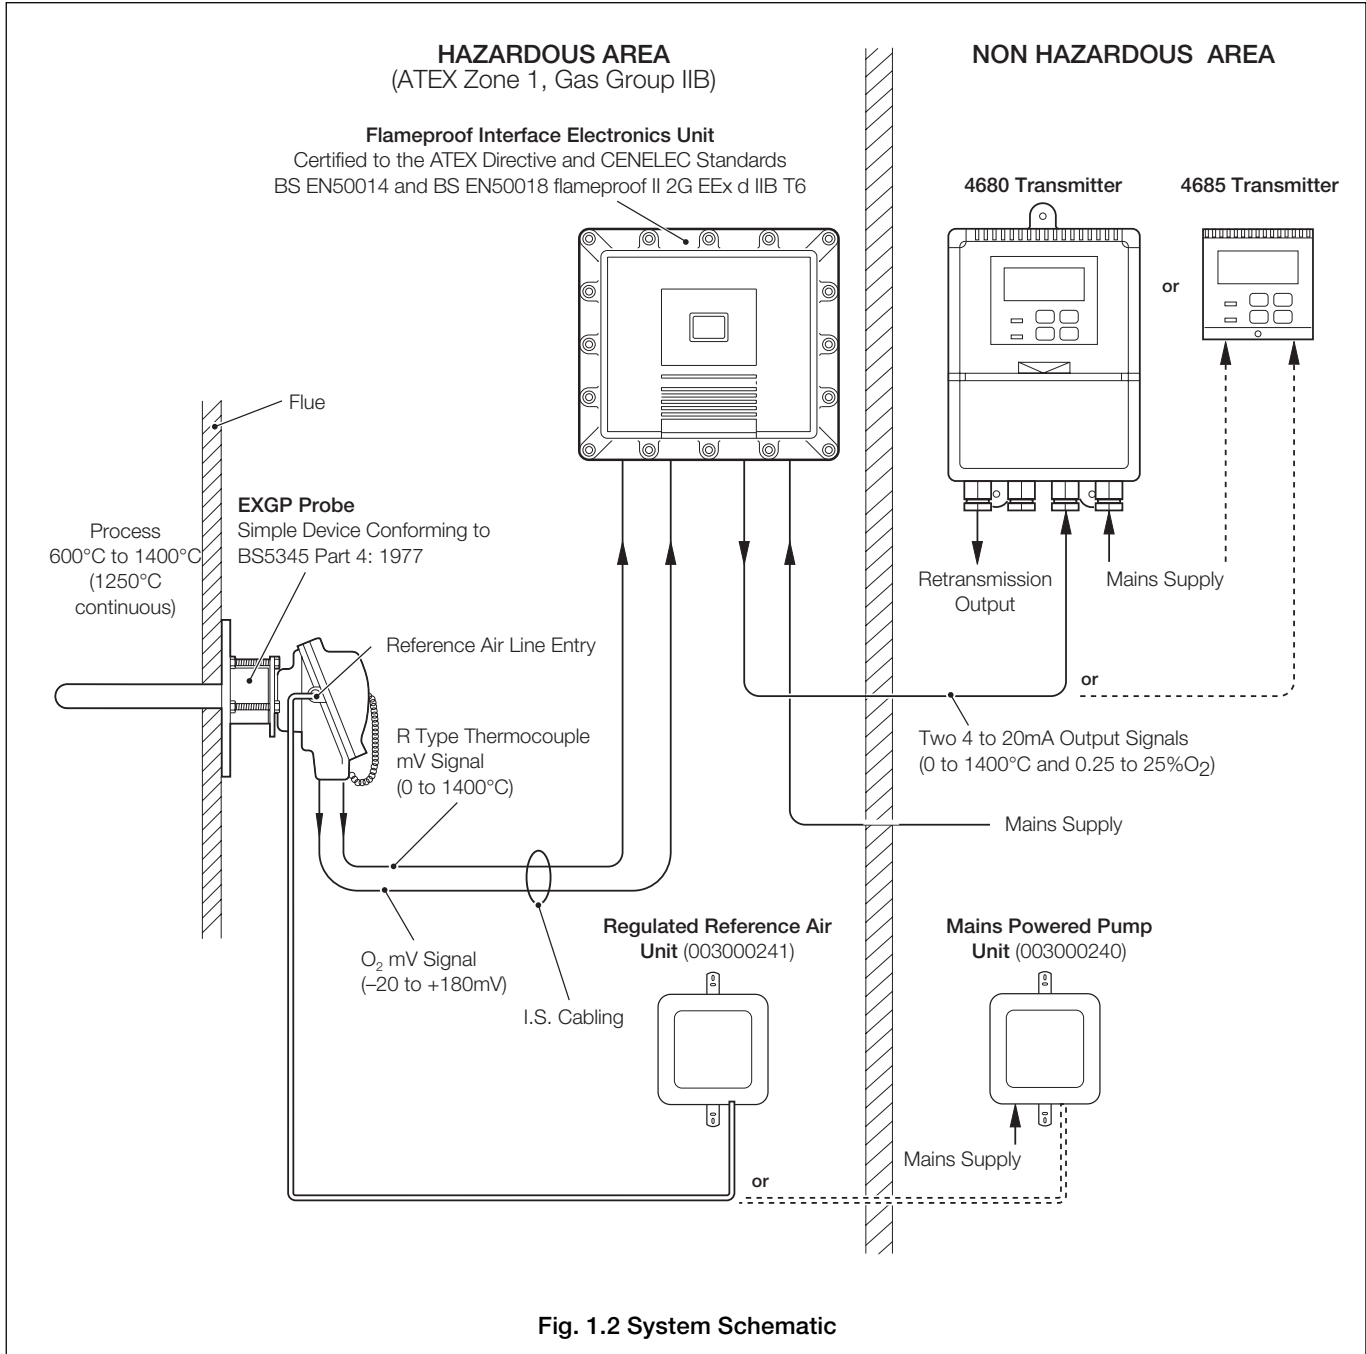

Fig. 1.2 System Schematic
1.3 System Hardware – Fig. 1.2